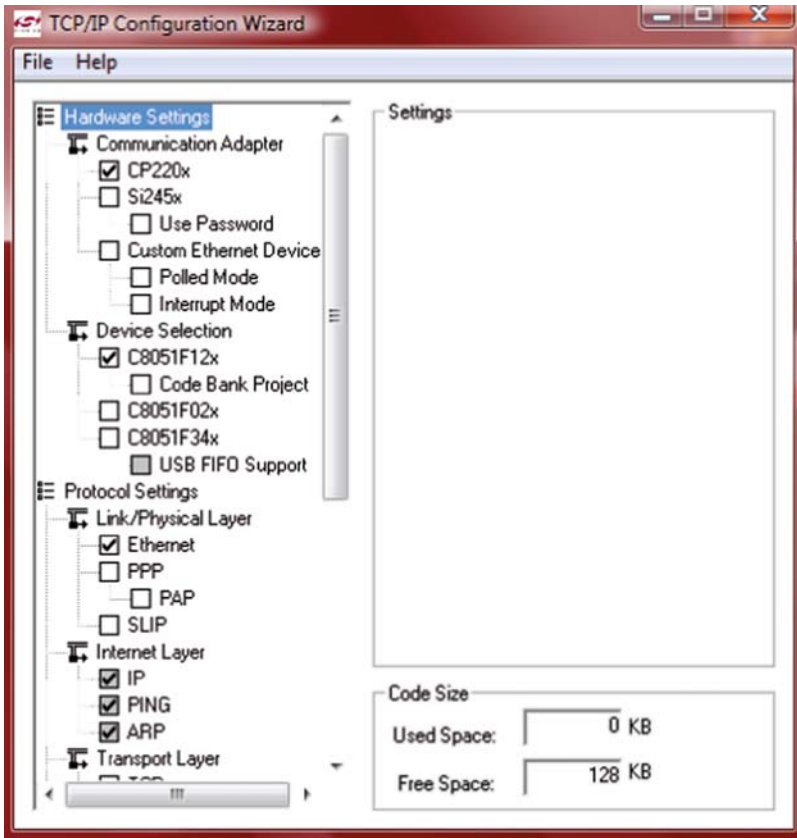

Fig. 8.9 TCP/IP Configuration Wizard
1. Start the TCP/IP Configuration Wizard. The shortcut should be in the same Start menu folder as the IDE. You should see the window shown in Figure 8.9.